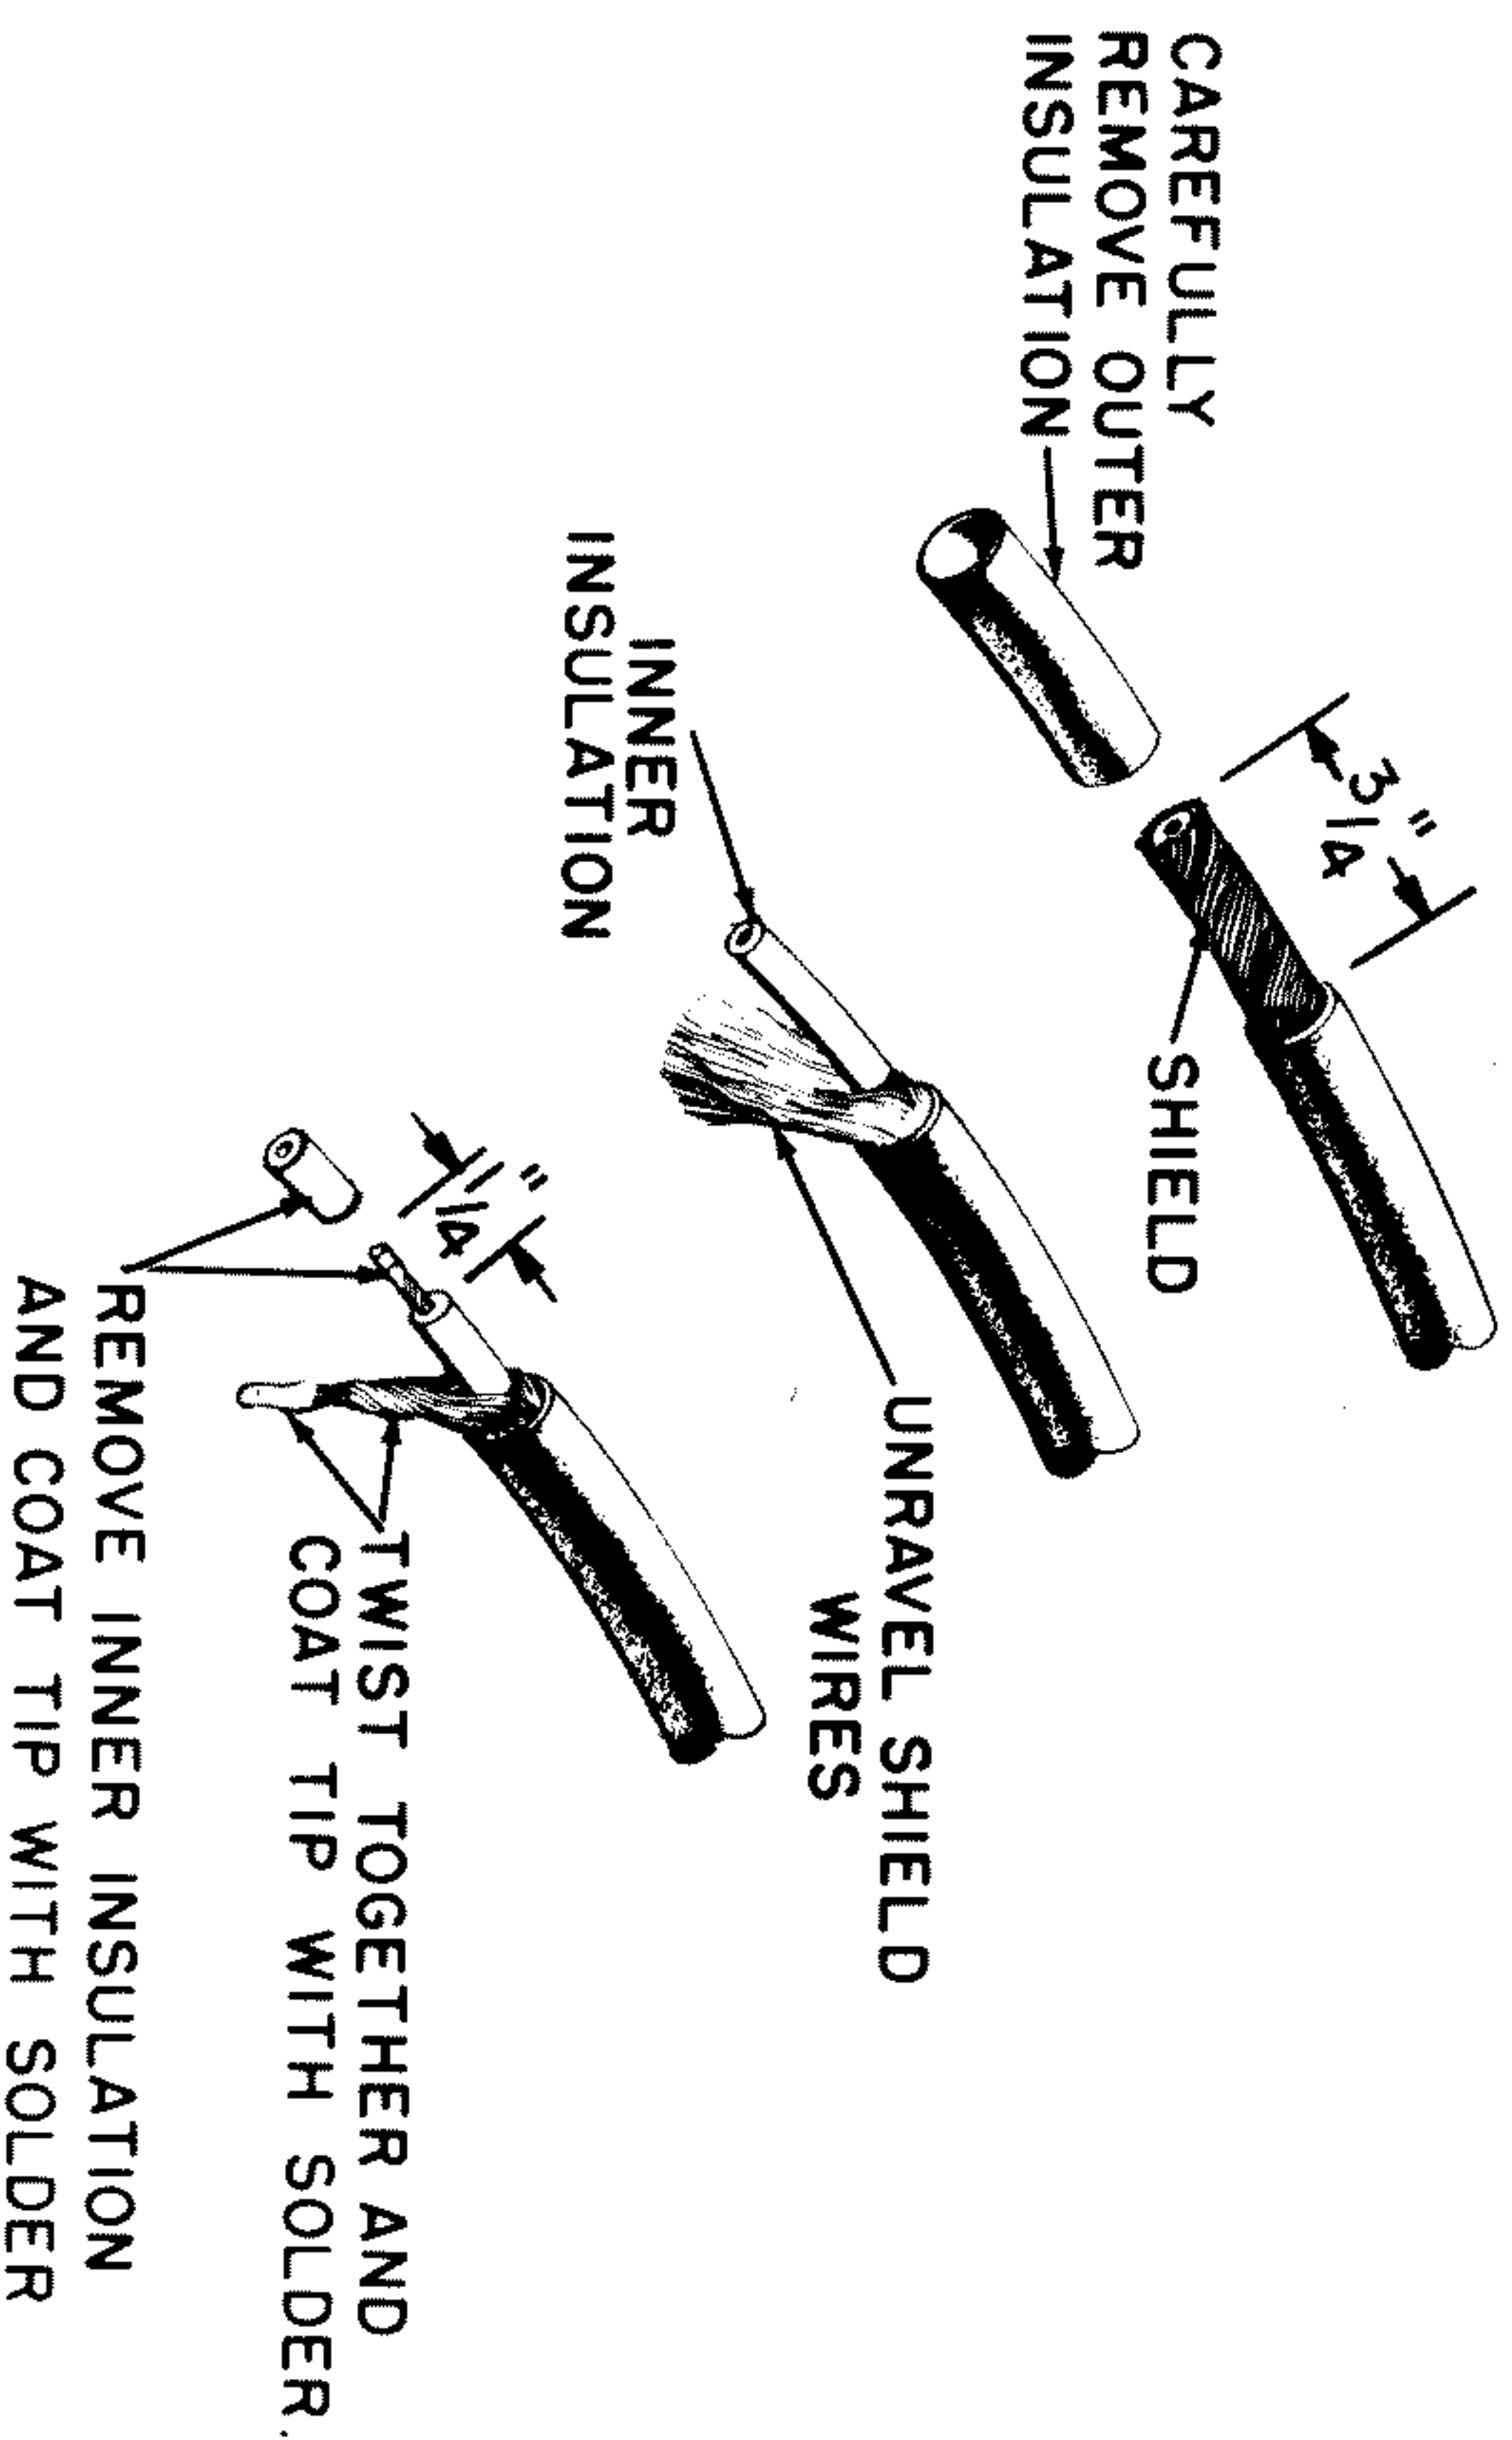

FIGURE 8
- ☒ Cut a piece of shielded wire 5" long. See Figure 8 for cable preparation. From one end, remove $\frac{1}{2}$ " of outer plastic cover and shield. Remove $\frac{1}{4}$ " of insulation from the center conductor. From the other end, remove $\frac{3}{4}$ " of plastic cover, unravel shield and twist into single conductor. Remove $\frac{1}{4}$ " of insulation from the center conductor.